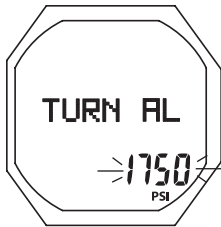

Fig. 45 - SET TURN AL
**Set Turn Press\*\* Alarm**, information includes (Fig. 45):